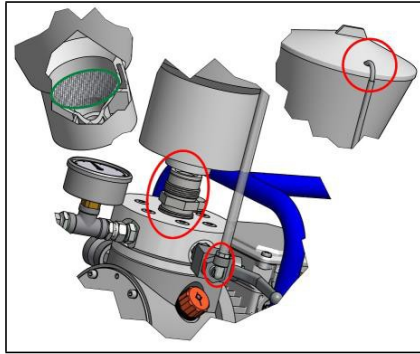

Fig.8.2.6
5. (Fig.8.2.6) Check the material sieve in the material container. In the event of any kind of contamination it must be cleaned or replaced. Now screw the material container onto the inlet valve. Connect the return hose to the ball valve on the valve block and the angle hook into the hole in the cover of the material container.